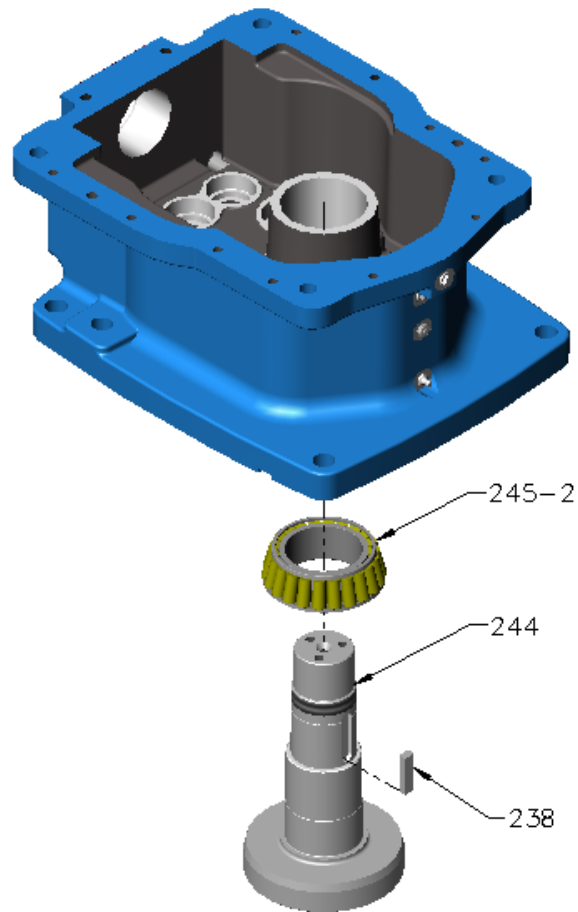

Figure 16 –Output shaft
- C. Output shaft assembly (refer Figure 16).
- D. Lift the case bottom and align with output shaft assembly [244] (refer Figure 16).
- E. Carefully lower bottom case until bearing [245-2] is seated (refer Figure 16). Take care not to damage the lip seal.